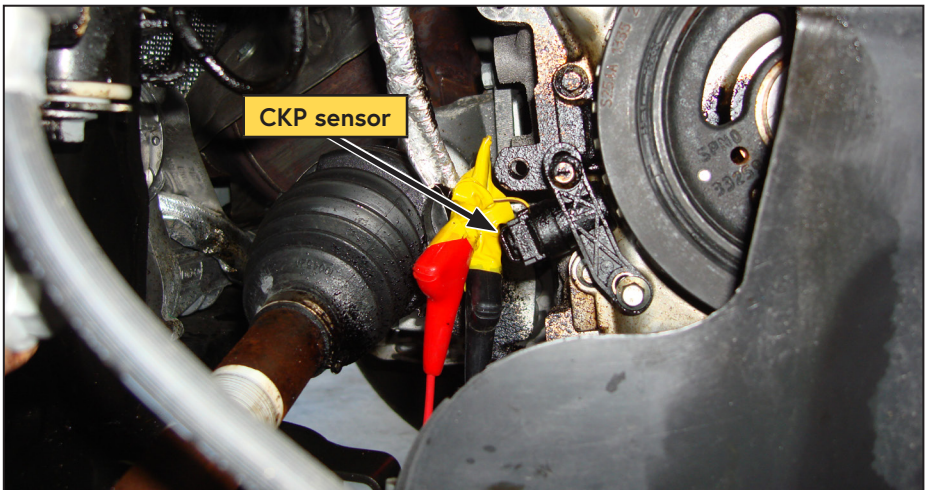

Figure 17 — Crank Position Sensor
- From the passenger side wheel well, locate the (CKP) sensor and disconnect the harness. There are (x2) push-in clips securing the harness (Figure 17).